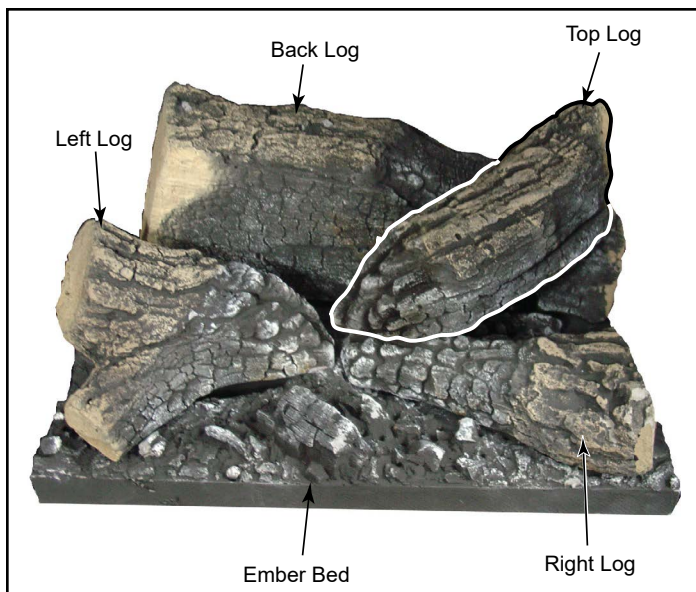

Figure 3.62 - Top Log
5. Install top log by mating hole on bottom of log with locating pin on top right side of rear log, Figure 3.62. Position log so it is angled down toward the area where the front two logs meet.